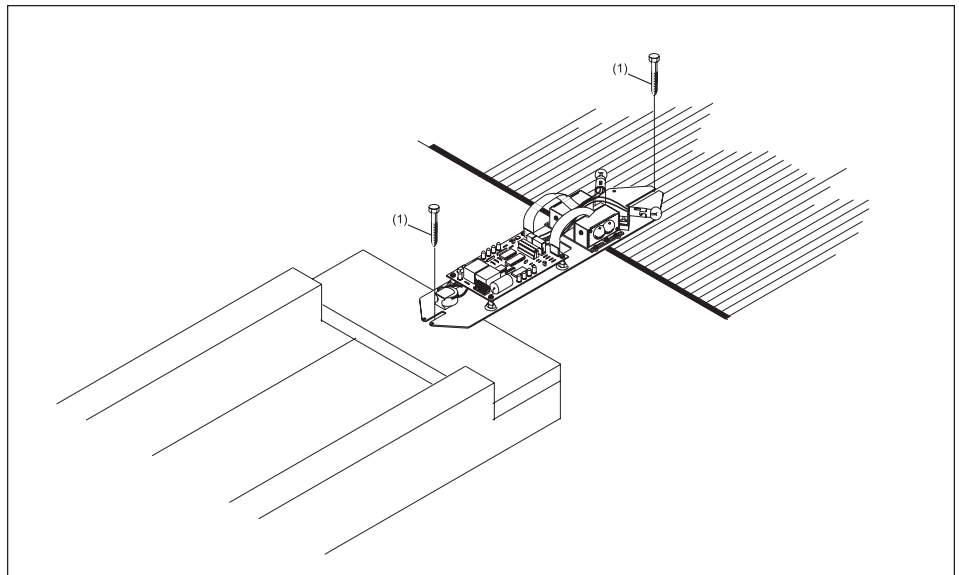

Figure 10.
(1) CENTER LINE OF SENSOR
(2) SENSOR
(3) FOULLINE
- Mark the mounting hole locations, set the units aside, and drill holes for the mounting screws. Use two 1/4 x 2" lag screws, one in the mounting plate and one in the approach fill. Replace the unit and mount in place. Refer to *Figure 10*.